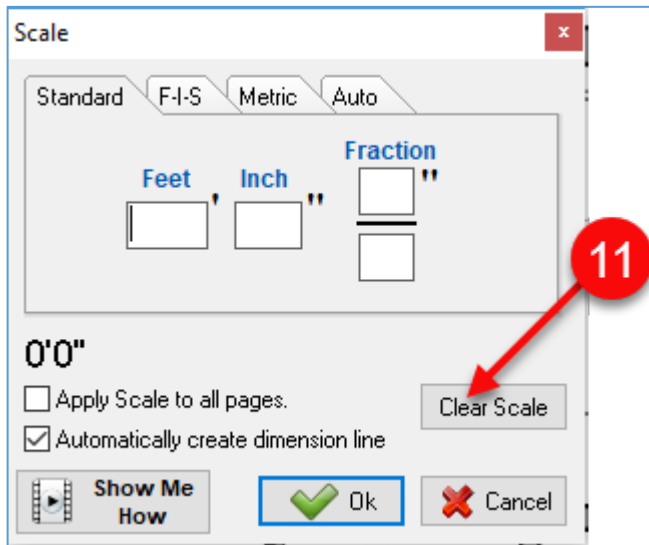

Figure 3-C
12. The **Auto** tab in the **Scale** window (Figure 3-D) allows you to scale the page in the same manner as you do when you click on the **Scale** drop-down menu. The **Auto** tab allows you to apply an automatic scale to *all* pages, whereas the **Scale** drop-down menu only does the current page.